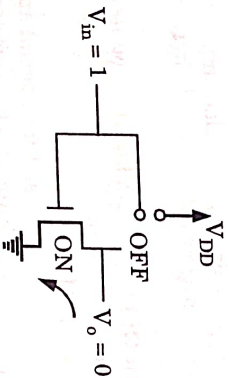

Fig. 1.13.2
- When input is high ($\approx V_{DD}$) Q_N is made to conduct, while Q_P is forced to cut-off. This causes the output becomes low ($V_o = 0$) as shown in Fig. 1.13.2.